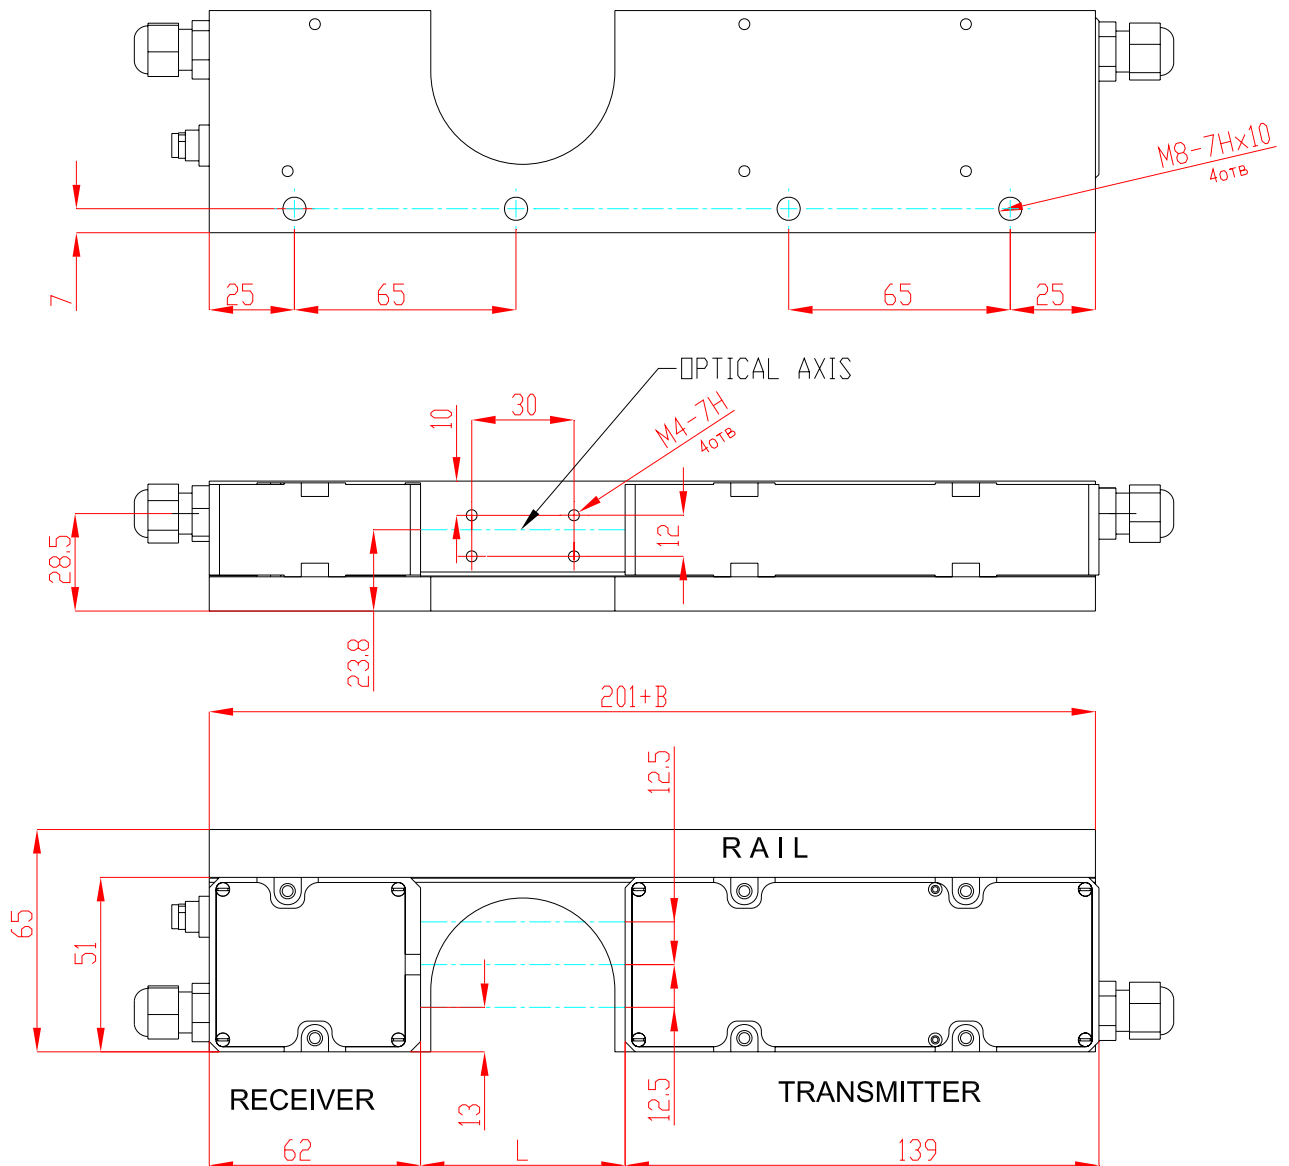

Figure 3.
5.1. Overall and setup dimensions of the RF651-25 micrometer are shown in Fig.3, RF651-5 – in Fig. 4. Bodies of the receiver and transmitter are made of anodized aluminum. On the front panel of the body there is a window, on the opposite face there are power supply and interface connectors. Transmitter and receiver are mounted on the rail. The rail have fastening holes allowing setup of the device on equipment.